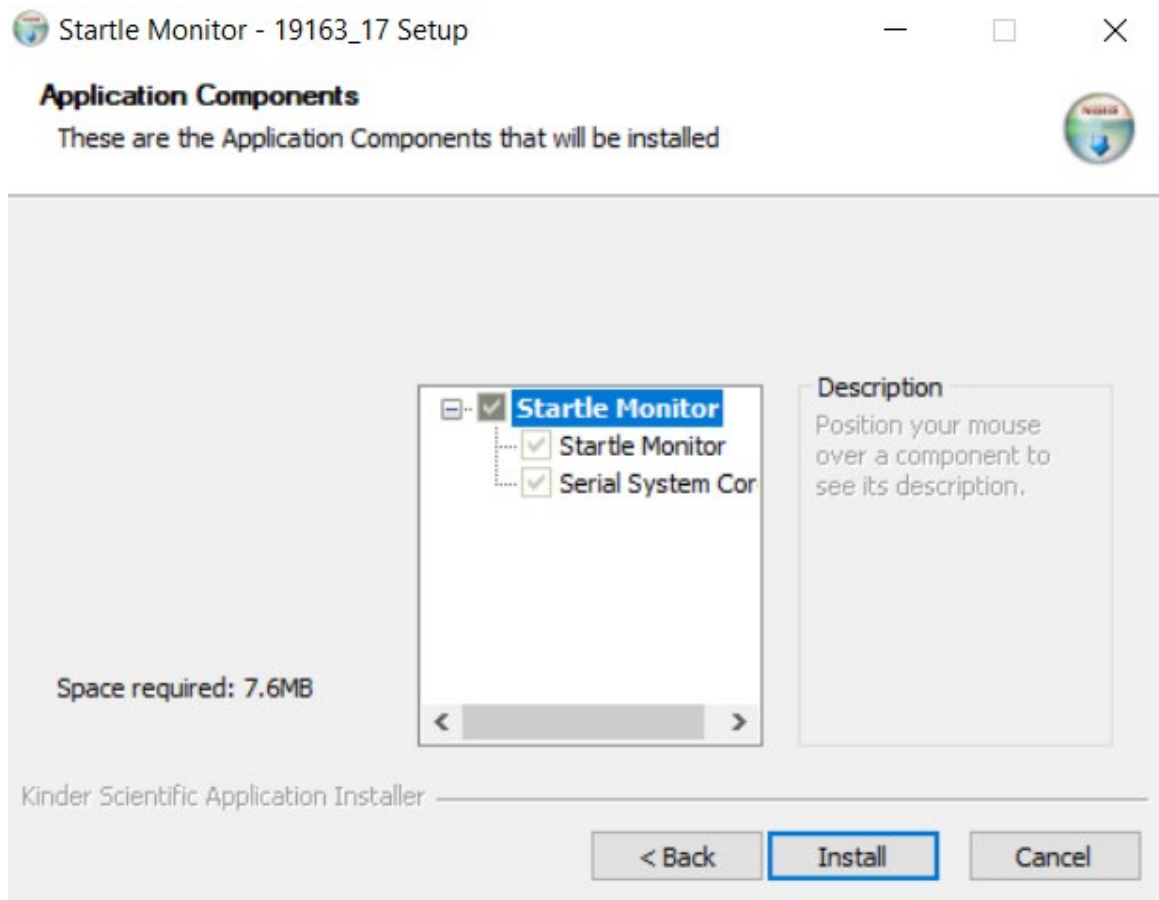

Figure 14 Application Components
- Read through the License Agreement and, if you agree with the Terms, click on **I Agree**. The following screen (Figure 14) will appear: